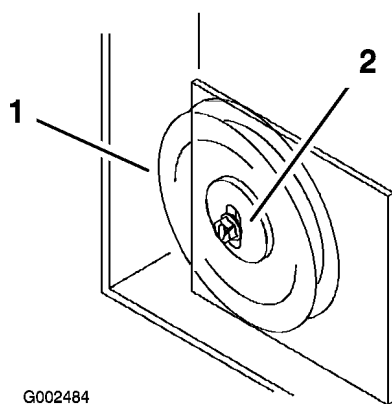

Figure 55
- If the mower idler plate contacts the end of the adjustment slot and more belt tension is required, a small change to the right side fixed idler can create more belt tension adjustment (Figure 55).